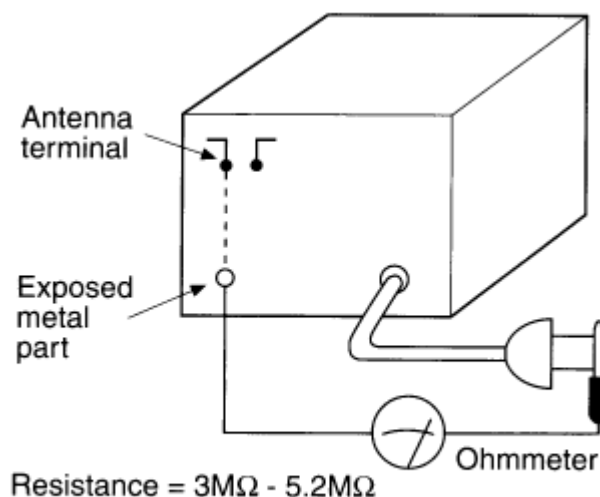
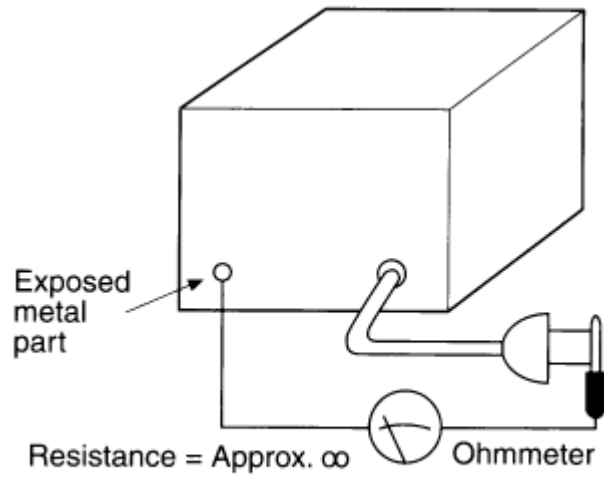

Fig. 1
Fig. 2
3. Measure the resistance value with ohmmeter between the jumper AC plug and each exposed metal cabinet part, such as screw heads, antenna, control shafts, handle brackets, etc. Equipment with antenna terminals should read between 3MΩ and 5.2MΩ to all exposed parts*. (Fig 1) Equipment without antenna terminals should read approximately infinity to all exposed parts. (Fig 2)